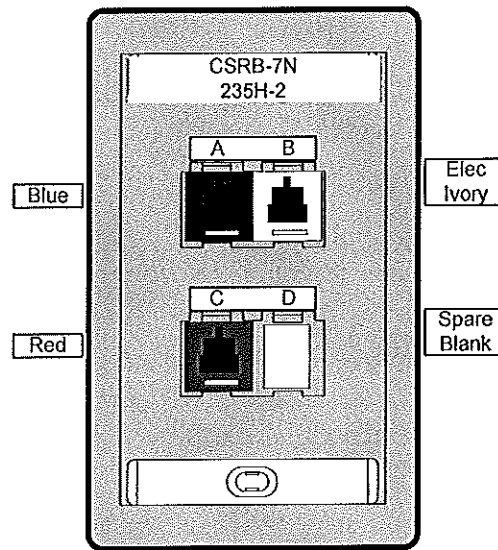

Figure 1: Panduit style faceplate
- The work area outlets shall consist of electric-ivory four-port faceplates, Panduit part number CBEEI using CHSR2 recessed module inserts. All connectors on faceplates in the work area should be Category 6 RJ45 jacks. Each faceplate will have three jacks. These are to be designated and color coded as follows: Data jacks are to be blue and positioned top left. Voice jacks are to be red and positioned at the bottom left. Spare jacks are to be electric ivory and positioned top right. Blanks shall be the same color as the faceplate (electric ivory) and positioned bottom right. All directional references above assume the installer is facing the front of the faceplate. The faceplate is illustrated in Figure 1.